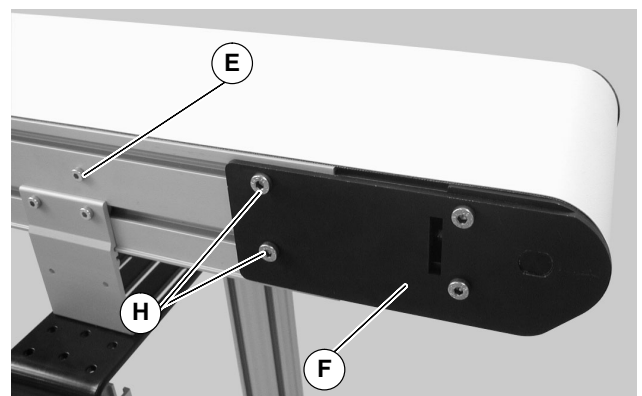

Figure 12
2. On tension end of the conveyor, identified by the pinion locking screw (E of Figure 12), push in head plate assembly (F): Loosen the pinion locking screw (E), adjust the pinion torque screw (G of Figure 13). On both sides of conveyor, loosen the two tail clamp bolts (H of Figure 12), and push head plate assembly (F) inward.